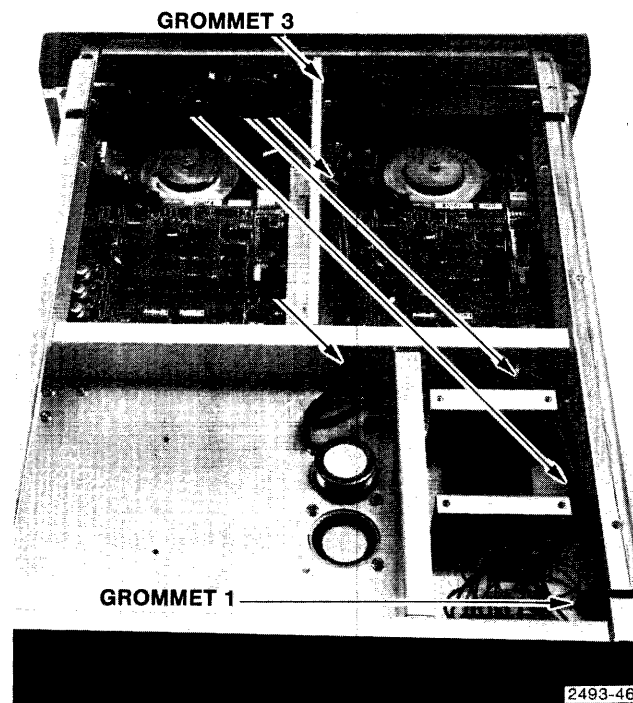

Figure 7-10. Threading ribbon cable D through grommets in cabinet chassis.
- q. Thread front panel ribbon cable (D) through grommets 1, 2 and 3 in cabinet chassis (Figure 7-10).
- r. Cut old tie wraps and secure new ribbon cable (D) to chassis walls and to adjacent wiring with new tie wraps (Figure 7-10).